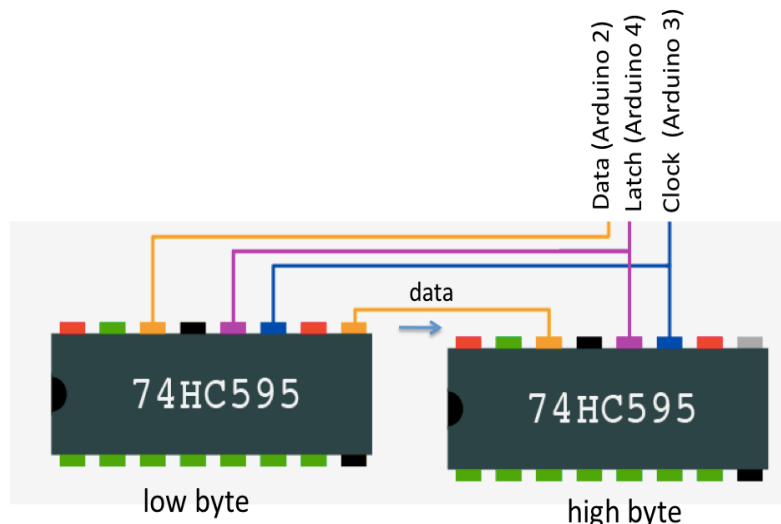

Figure 4. Daisy-chaining two shift-registers
- f. **Scaling up....** Hopefully, by now you are convinced that shift registers are very useful: using only one output pin on Arduino (along with two additional control pins: clock and latch) you were able to control 8 different LEDs, independently. Now, let's try to build on this and scale the system up. Shift registers have a pretty clever option built in that allows them to be chained or cascaded together. Remember how we said that the last register just dumps its value when it is shifted over? Well the Pin 9 is where the 74HC595 dumps that value. So we just take that and use it as the input (Pin 14) on a next shift register in the chain, and bam! They are chained together. Note that you will need to control both registers with the same Arduino, and bring *clock* and *latch* signals to appropriate pins on both registers. Let's try this in practice. You can do this part in two ways – you can get another (or more) 74HC595 along with more diodes and resistors and wire this up, or you can work with another group and combine your circuits (Figure 4). Notice that you will need only one Arduino for this: both 74HC595 chips will have their Pins 11 connected to Arduino Pin 3, and Pins 12 to Arduino Pin 4. One of the chips will continue having its data Pin 14 connected to Arduino Pin 2 (this will be your *lower byte*). However, second shift register will have its data Pin 14 connected to the serial out pin (Pin 9) of the first shift register.